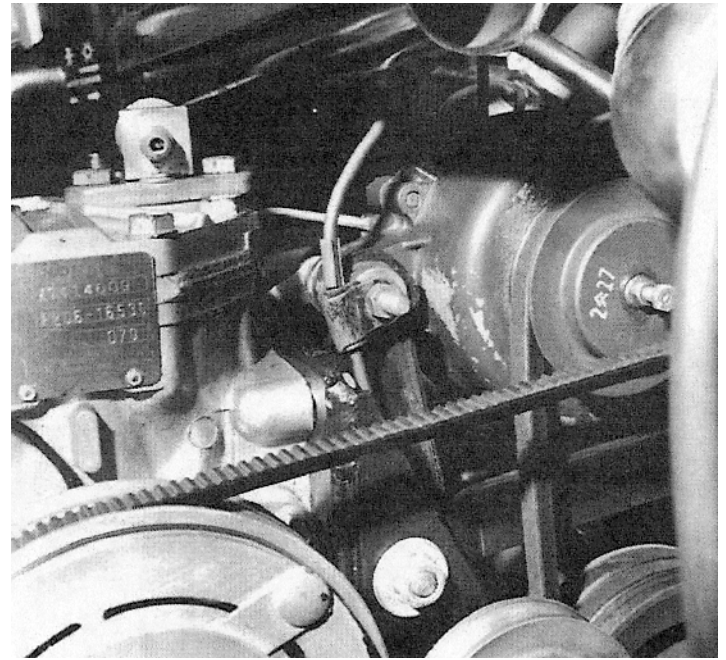

FIG 2
6. For DS-21 series cars ONLY refer to FIG. 2 . Remove and rotate 180 degrees the clamps securing the high pressure hydraulic lines to the pump